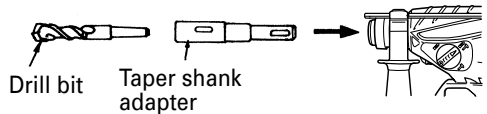
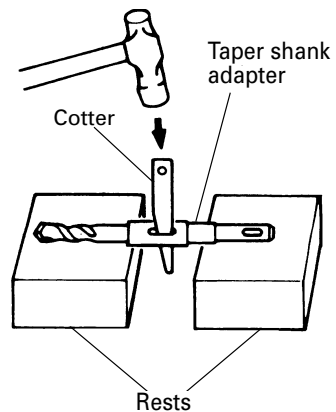

Fig. 17
Fig. 18
- (1) Mount the taper shank adapter to the rotary hammer. (Fig. 17)
- (2) Mount the drill bit (taper shank) to the taper shank adapter. (Fig. 17)
- (3) Turn the switch ON, and drill a hole to prescribed depth.
- (4) To remove the drill bit (taper shank), insert the cotter into the slot of the taper shank adapter and strike the head of the cotter with a hammer supporting on the rest. (Fig. 18)
4. Inspecting the carbon brushes (Fig. 17)